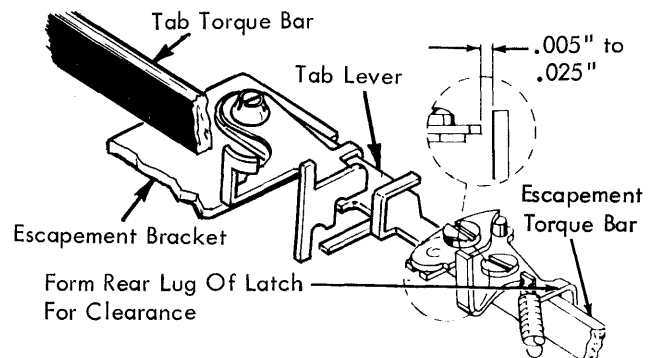

FIGURE 234. Interlock
8. Carrier Return Tab Interlock (Fig. 234) - With the carrier return clutch latch (in a carrier return operation) the upright lug of the tab latch should clear the end of the tab lever pawl by .005" - .025". The rear lug of the tab latch should be formed forward or back to obtain this condition.